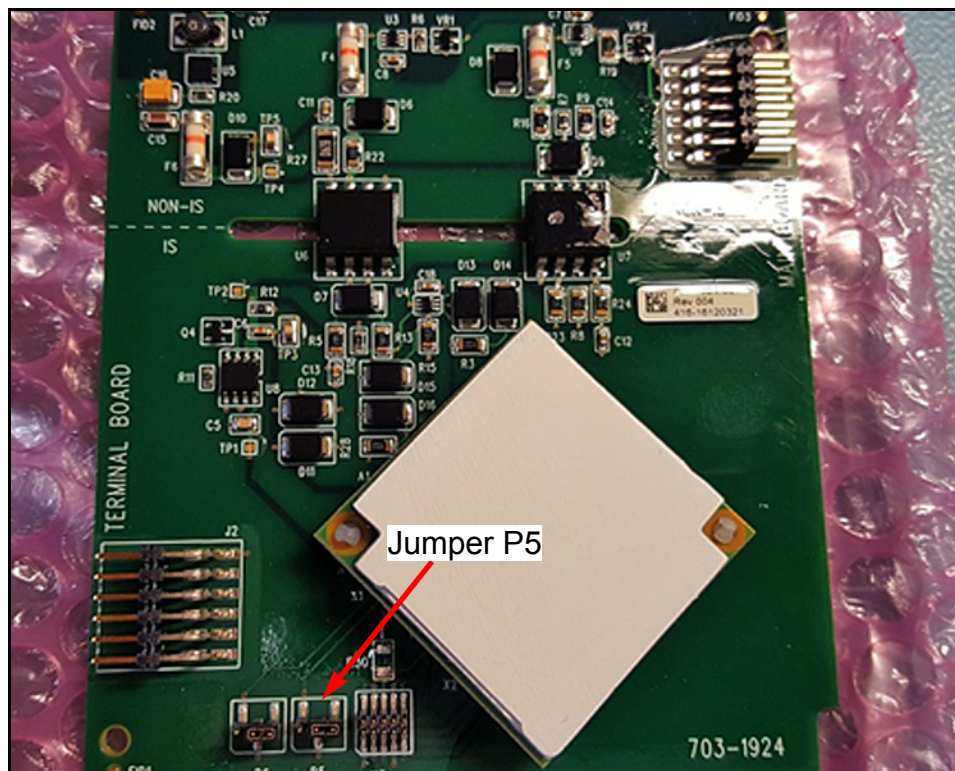

Figure 34: P5 on XMT1000 PCB
2. Locate the jumper **P5** (see *Figure 34* below).